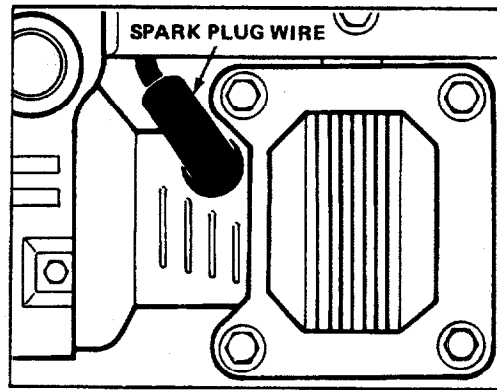

Figure 10
2. Push spark plug wire onto spark plug (Fig. 10).